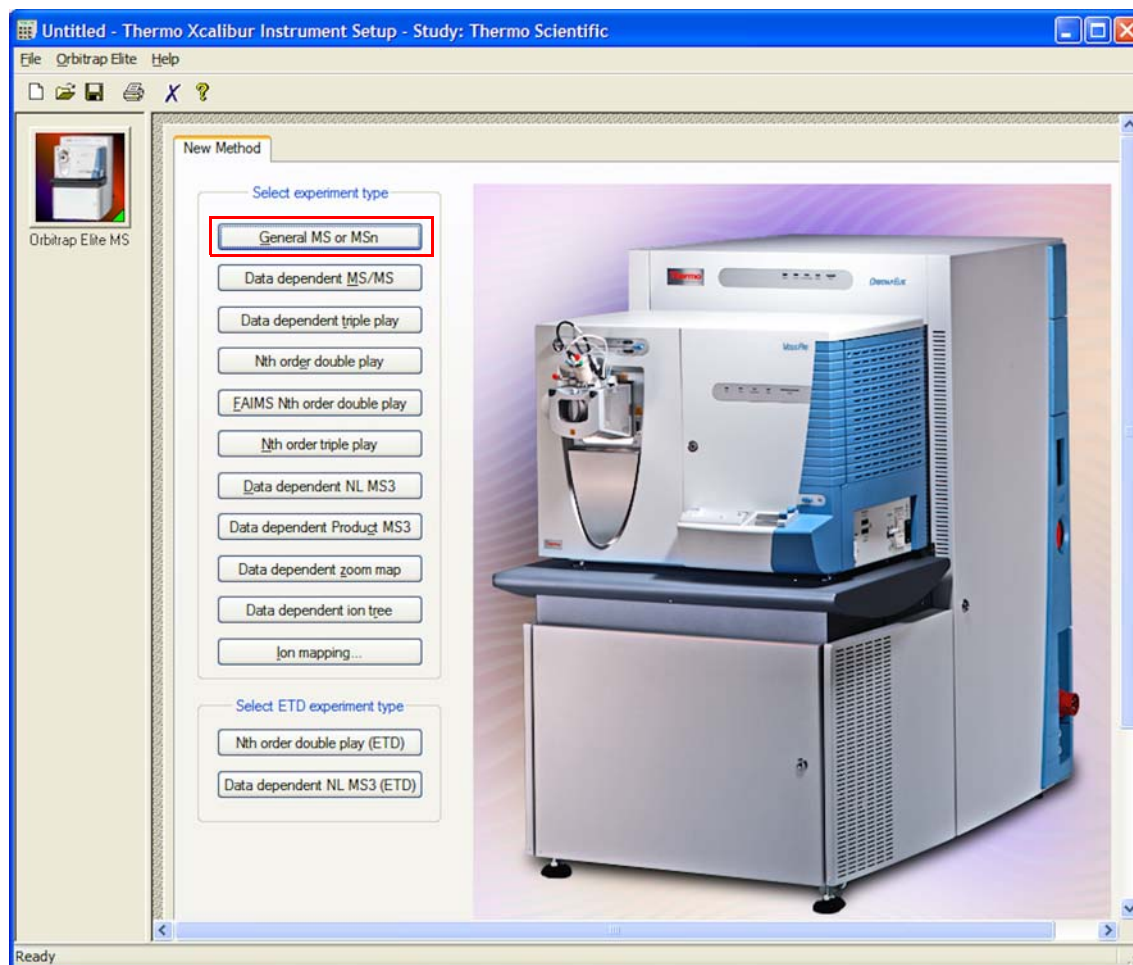

Figure 7-33. New Method view in Xcalibur Instrument Setup
3. Click **General MS or MSn** in the Select Experiment Type section of the New Method view. See Figure 7-33 on page 7-36.